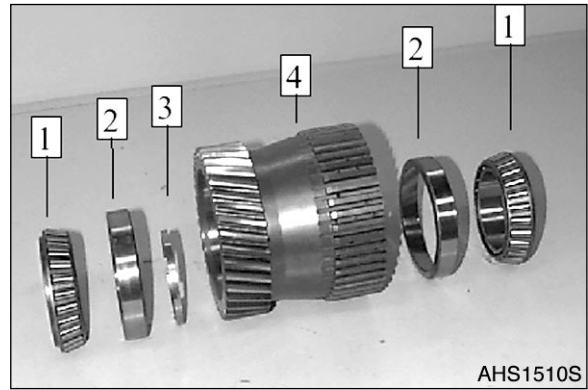
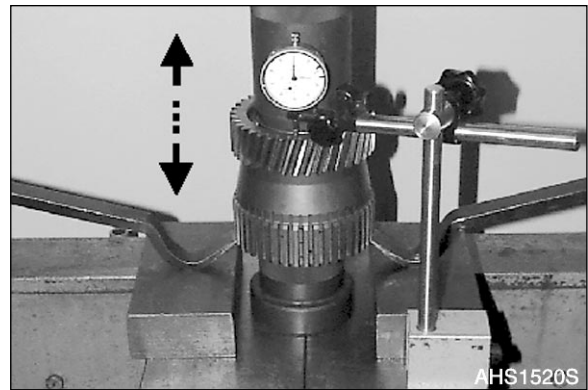

Figure 190
Figure 191
2. Pre-assemble and install Spur gear K4 (Figure 190 - Figure 196).
- A. Figure 190, shows the components of spur gear K4.
- C. Install components, according to Figure 190. Preload tapered roller bearing with about 50,000 N (5.5 ton), and determine axial play with dial indicator.
NOTE: *In case of deviations from the required axial play, correct with corresponding shim (Item 3/ Figure 190).*
- E. Line up the determined shim (see Figure 190 and Figure 191), with the oil groove facing upward.